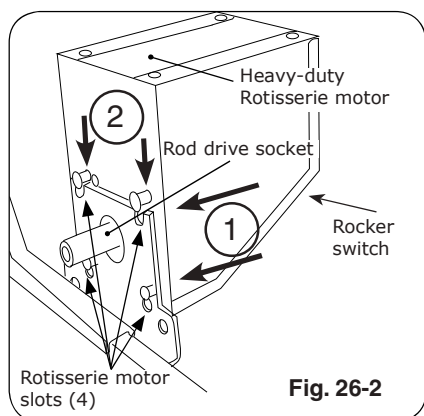

Fig. 26-2
10. Plug-in the rotisserie motor and press the rocker switch to start (Fig. 26-2).